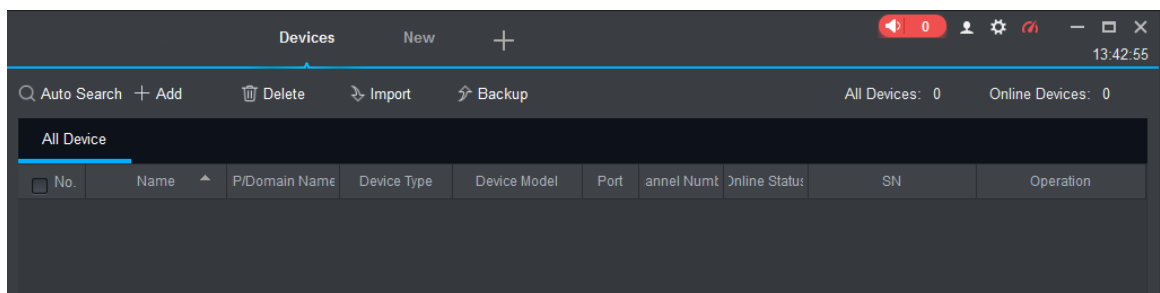

Figure 5-1
Step 1 In "Devices" interface, click "Auto Search", as shown in Figure 5-1.